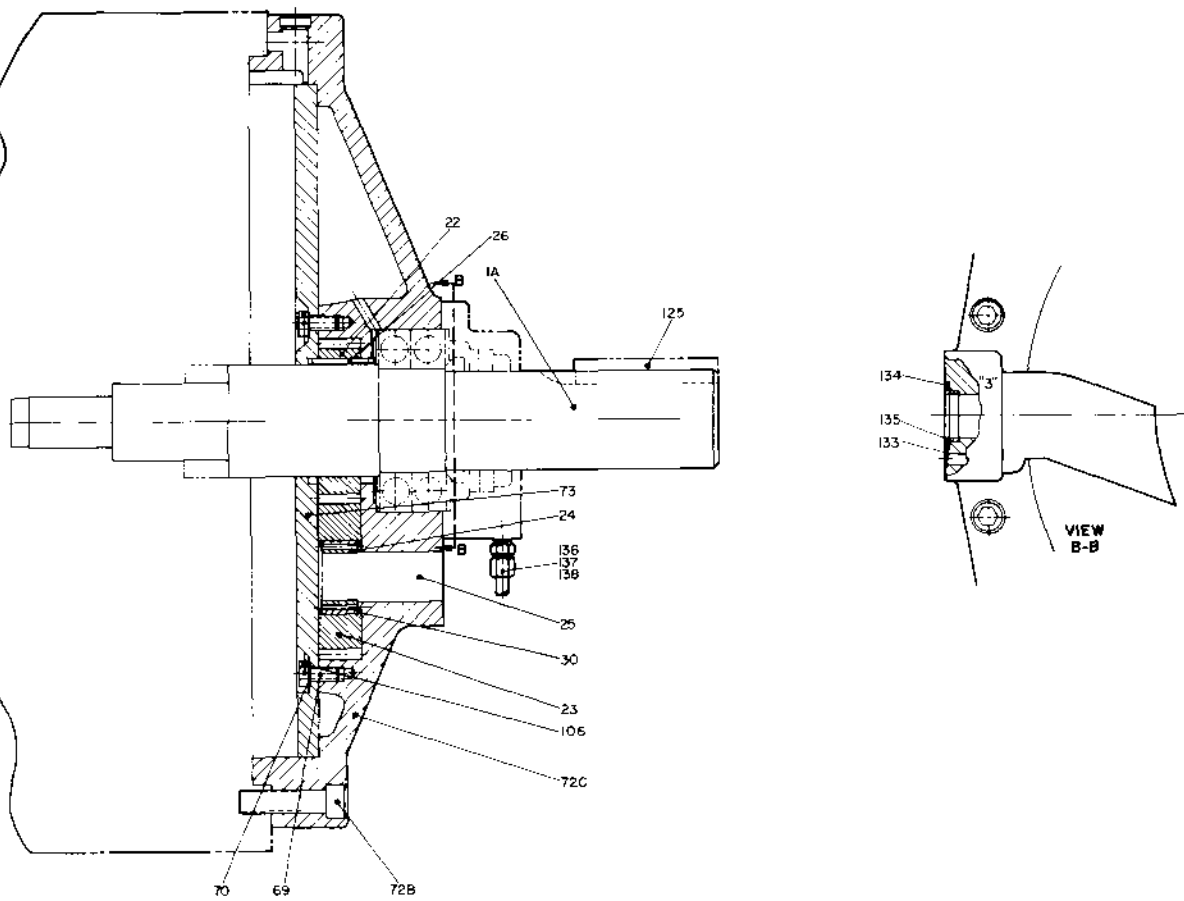

Figure 14. Optional Gear Pump. (508644)
See Figure 14. With Gear Pump -- Place gears (22 & 23) into respective pockets of housing (72C). Position cover (73) and gaskets (70) onto housing and secure with cover screws (69). Reinstall lock wire (106) through all screw heads. Reinstall driveshaft (1A) being certain to line up key (26) with keyway in drive gear (22). NOTE: Gear (22) must be sliding fit over shaft and key. Install washer (4) and nut (3), then screws (71A). Reinstall drive key (125).
**ALL HOUSINGS**--- Position gasket (29) on middle case (56), making certain the uptapped porting hole is not blocked, then secure front housing assembly to case using screws (72A or B).